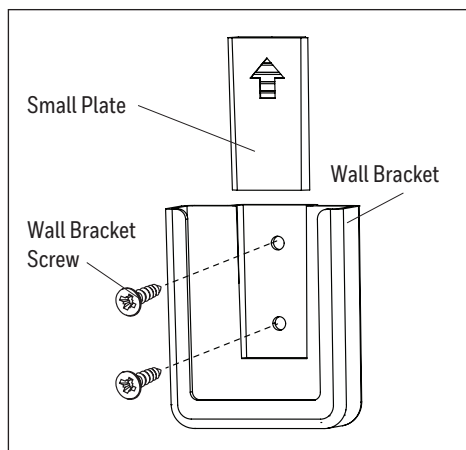

Figure 5.6
6. Remote control comes equipped with a wall bracket. If you wish to install the wall bracket, remove the small plate to expose the screw holes. Insert wall brackets screws through holes and into wall, then cover with the previously removed small plate. The remote can be stored in the wall bracket for easy access (Figure 5.6).